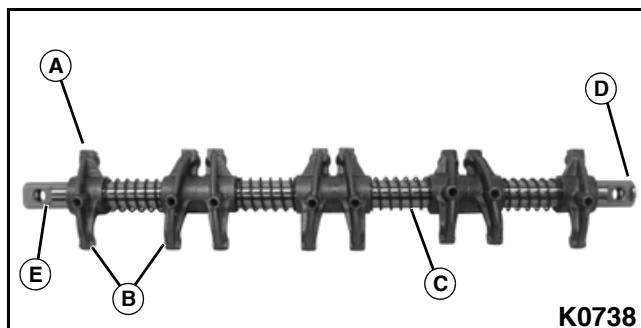

Figure 3-131: Rocker Arm Assembly and Installation
1. Arrange the rocker arms (A) into pairs with the valve contact surface (B) angled in. **See Figure 3-131.**
2. Compress the springs (C) with the rocker arms and install the rocker arm support tool to hold the rocker arms and springs in place during assembly.
3. When installing the rocker arm assembly on the cylinder head, the raised lip (D) on the rocker arm shaft (E) must be to the rear and facing up as shown.